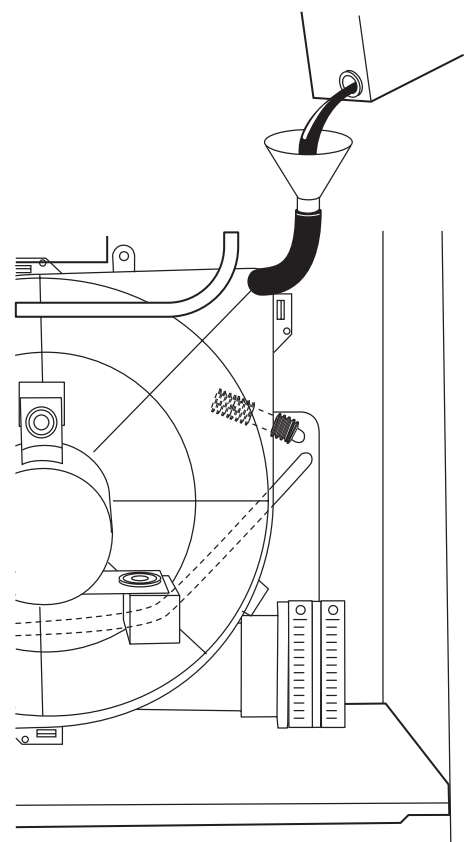

Fig. 15—Funnel in Drain and Antifreeze Running Through Trap
The electrical ground and polarity for 115-v wiring must be maintained properly. Refer to Fig. 11 for field wiring information and to Fig. 15 for unit wiring information.
5. Insert funnel in tube and pour up to 1 quart antifreeze, propylene glycol (RV, swimming pool antifreeze, or equivalent) into funnel until it is visible at point where condensate enters open drain. (See Fig. 15.)